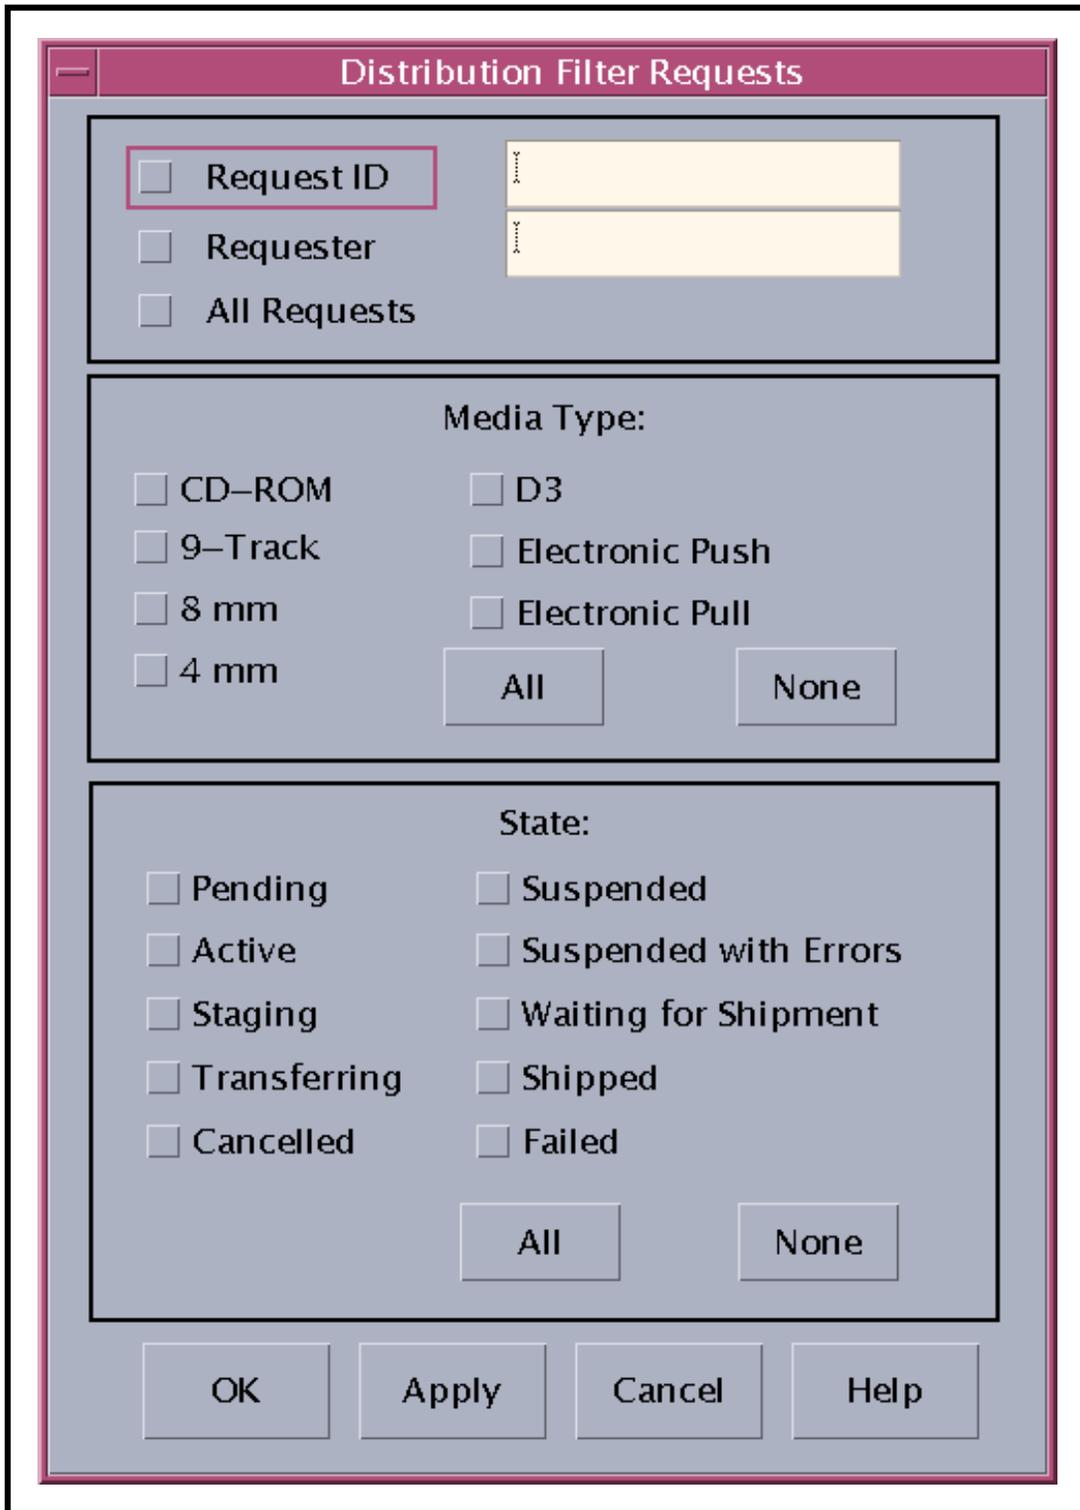

Figure 8. Distribution Filter Requests Dialog Box
- The **Distribution Filter Requests** dialog box (Figure 8) is displayed.